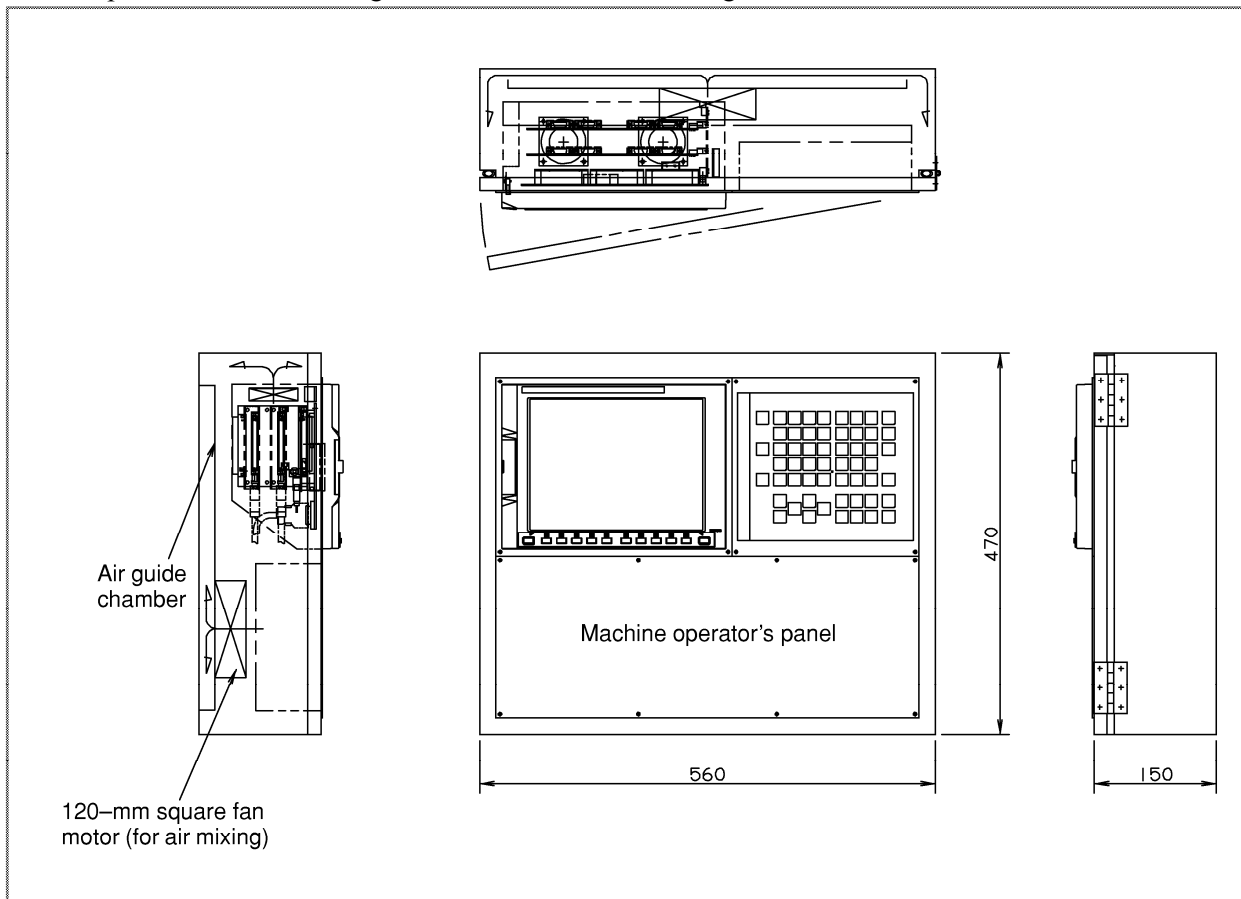

Fig. 3.3.3
An example of the thermal design for the cabinet shown in Fig. 3.3.3 is shown below.
Dimensions of pendant type cabinet shown in Fig. 3.3.3: 560(W) × 470(H) × 150(D) mm